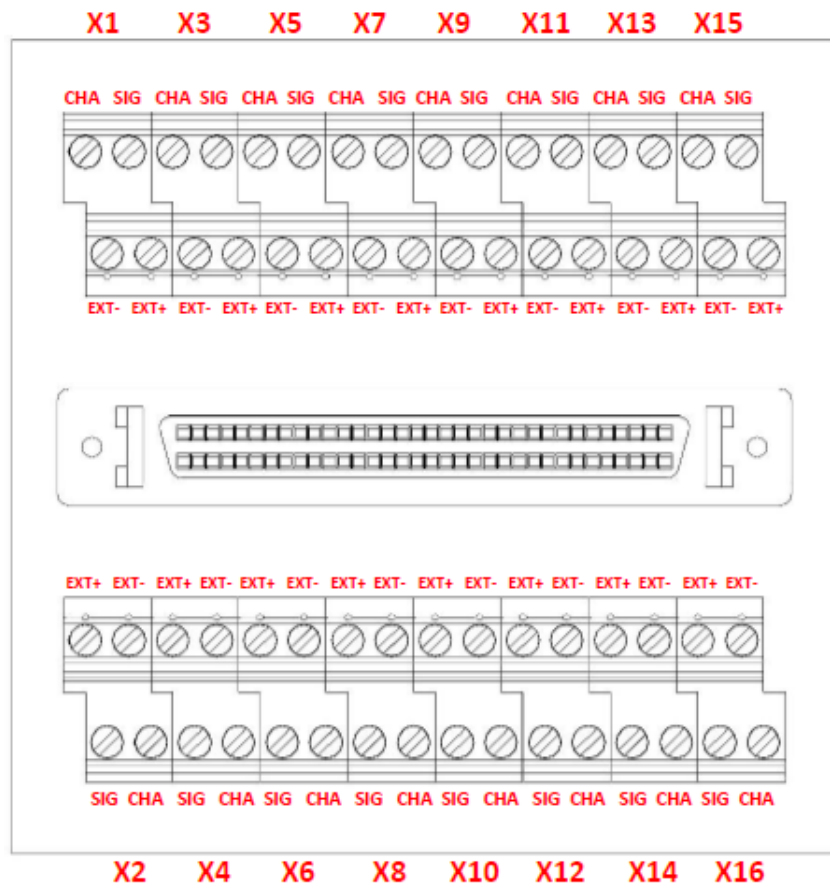

Fig. 5-97 A146, termination assignments for connection terminal Q.series XE CT A146 for measurement with a strain gage quarter bridge
Q.bloxx CT A146 is shown in Fig. 5-97, page 98 and the assignments for connecting *Cable A146* with free ends can be found in Fig. 5-95, page 96. For measurement with quarter bridges, only U_{Exc+} , U_{Exc-} and U_{Sig+} are assigned.